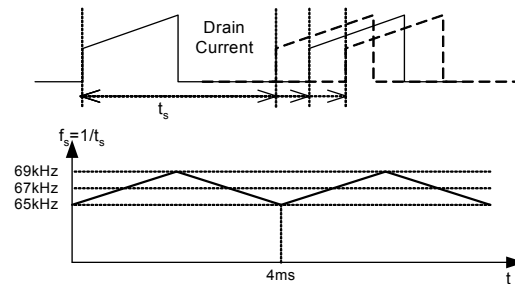

Figure 10. Frequency Modulation Waveform
7. Frequency Modulation : Modulating the switching frequency of a switched power supply can reduce EMI. Frequency modulation can reduce EMI by spreading the energy over a wider frequency range than the bandwidth measured by the EMI test equipment. The amount of EMI reduction is directly related to the depth of the reference frequency. As can be seen in Figure 10, the frequency changes from 65KHz to 69KHz in 4ms for the FSDM0265RN (97KHz to 103KHz for FSDH0265RN). Frequency modulation allows the use of a cost effective inductor instead of an AC input mode choke to satisfy the requirements of world wide EMI limits.